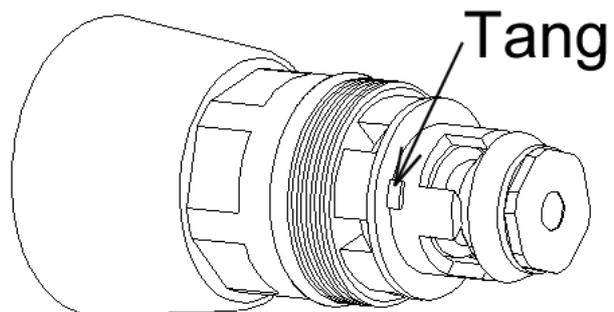

Fig. 11
6) When reassembling the cylinder onto the cartridge, be careful to assemble it in the correct orientation. The cartridge has an alignment tang (Fig. 11) and the cylinder has 4 alignment slots. Two of these slots are close together, and two are spaced apart.